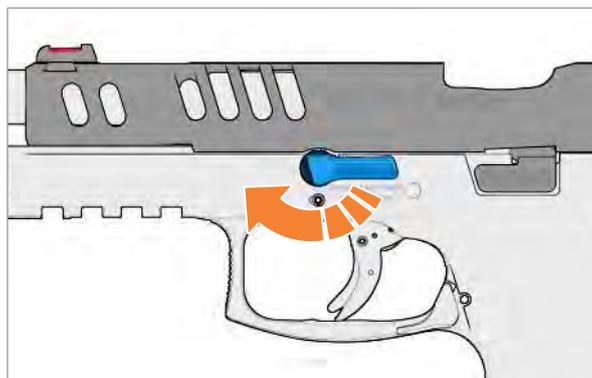

Fig. 57: Turning the disassembly lever
3. Turn disassembly lever clockwise as far as it will go (*Fig. 57*).